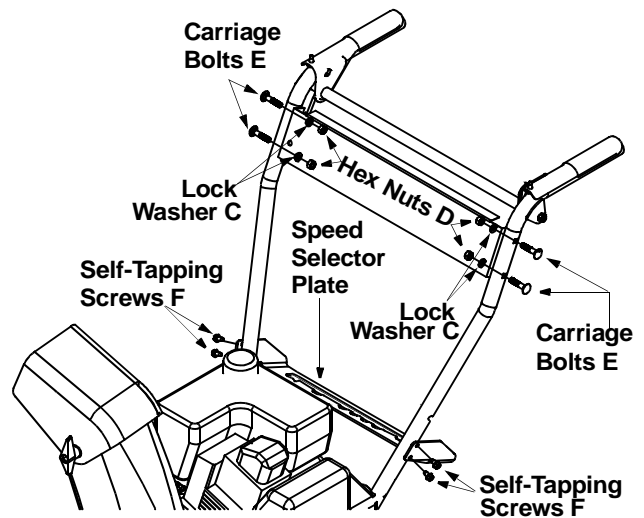

Figure 6
- Position the handle panel between handles. Insert two carriage bolts (E) on each side and secure with lock washers (C) and hex nuts (D). See Figure 6.
- Assemble the speed selector plate to the **outside** of the handles as shown in Figure 6. Secure using two self-tapping screws (F) on each side.